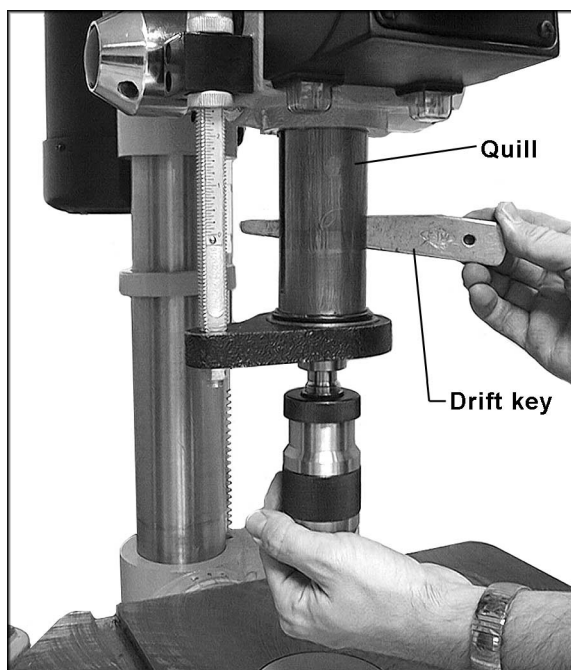

Figure 10
2. Lower the quill assembly with the downfeed handles to expose the slot (Figure 10).